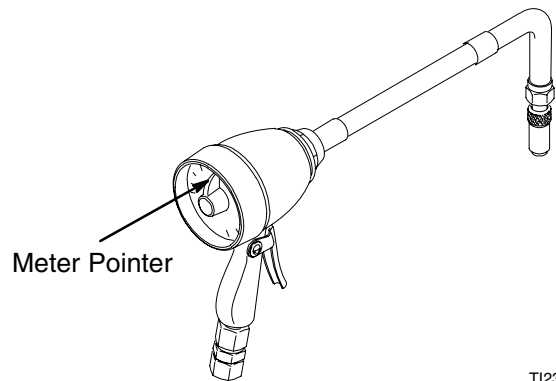

Fig 1
3. Return the meter pointer to “O” before dispensing again. See Fig. 1